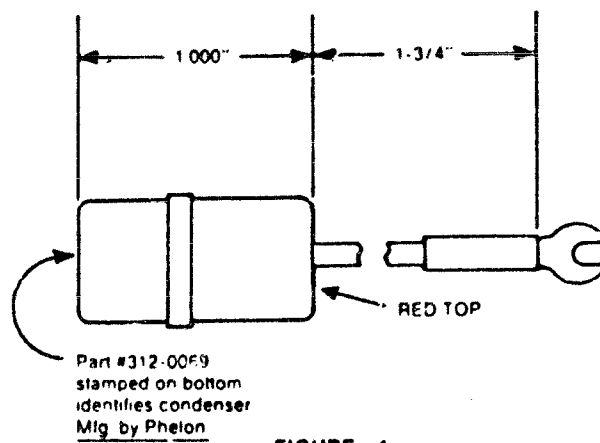

FIGURE 1.
- 1) Remove all 312-0069 Phelon (Red top/Fig. 1) condensers from your stock.
- 2) Remove 312-0069 Phelon Co. manufactured condensers (fig. 1) from the following kits: